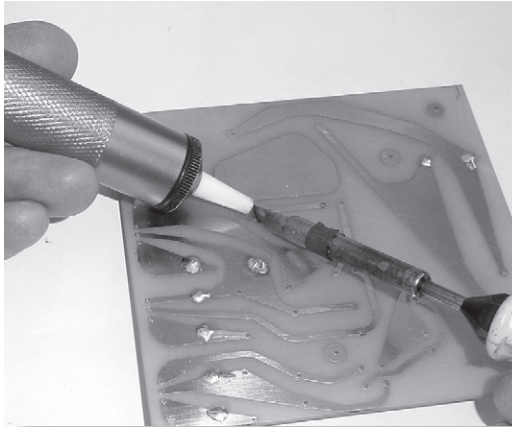

FIGURE 5.27 With the soldering iron bit tip heating the solder, apply the desoldering pump nozzle.
- **APPLY** the nozzle of the desoldering pump to the molten solder, as shown in Figure 5.27